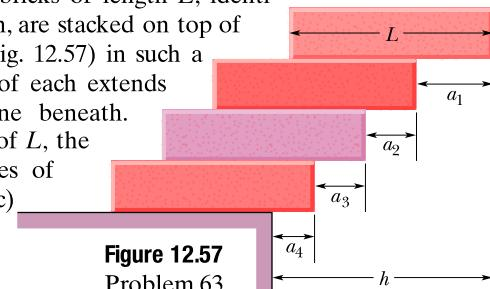

Figure 12.57 Problem 63.
**63 FCP** Four bricks of length  $L$ , identical and uniform, are stacked on top of one another (Fig. 12.57) in such a way that part of each extends beyond the one beneath. Find, in terms of  $L$ , the maximum values of (a)  $a_1$ , (b)  $a_2$ , (c)  $a_3$ , (d)  $a_4$ , and (e)  $h$ , such that the stack is in equilibrium, on the verge of falling.